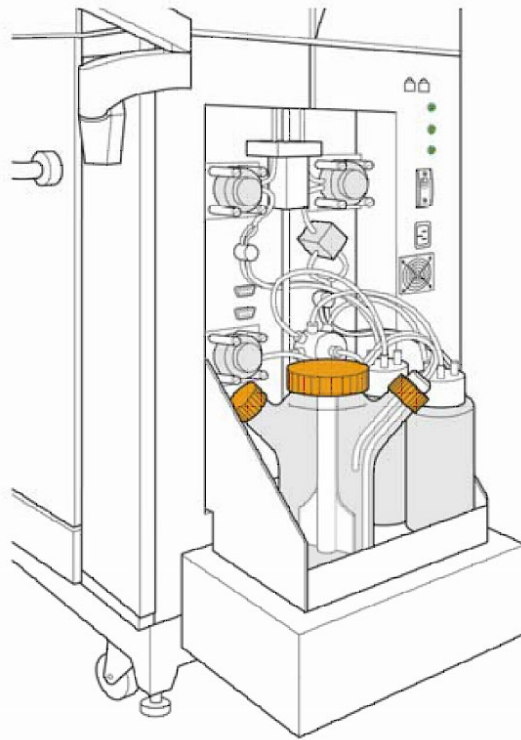

Figure 2-4: External Cell Suspension Module
- The Cell Suspension module (Figure 2-4) located externally on the right-side of the instrument.
The Cell Suspension module (Figure 2-4) consists of a shelf with a magnetic motor mounted underneath it, a cell flask with a magnetic stirrer, up to four fluid bottles for automated cleaning, and a removable cover for keeping cells in a dark environment.